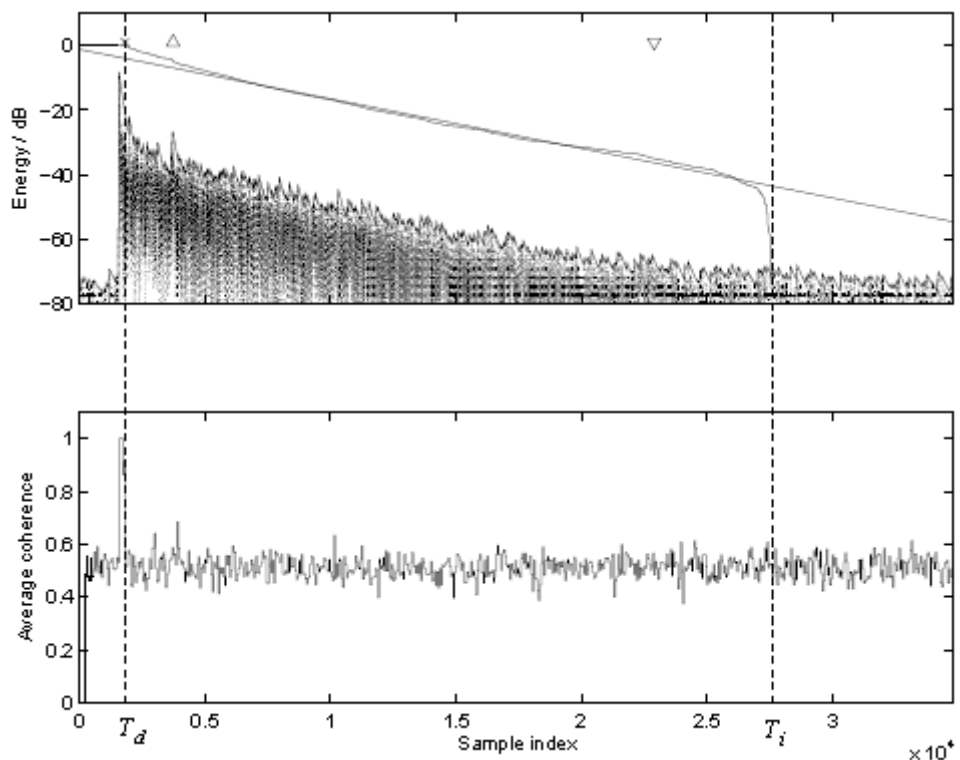

Fig. 6 An example of Schroeder integration with the limits T_i and T_d
- The time before marker t_{trig} in which the SVAN xxx analyser measures the actual sound pressure level and waits for the very high impulse sound pressure level which will fulfil the trigger condition. The trigger conditions will be fulfilled only when emitted impulse has maximal sound pressure level higher than L_t level (cf. Fig. 6). The L_t level in the SVAN xxx analyser is adjusted by parameter **Level** (path: <Menu> / Measurement / RT60 Settings).